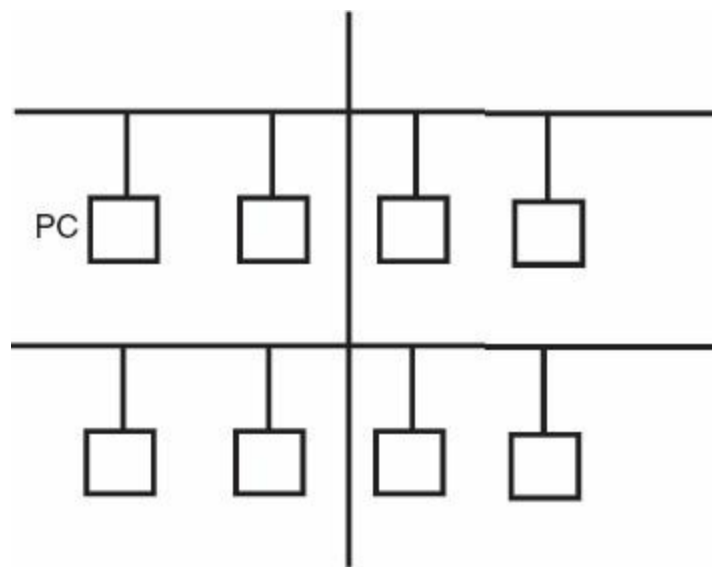

FIGURE 11.4 Tree topology.
- Tree topology: All of the PCs are connected in a tree fashion. There are hubs throughout the tree. Each hub connects the PCs in all of the branches that are at the same level shown in Fig. 11.4. The advantage of tree topology is that if one hub breaks down, it only affects the PCs in that level of branches.